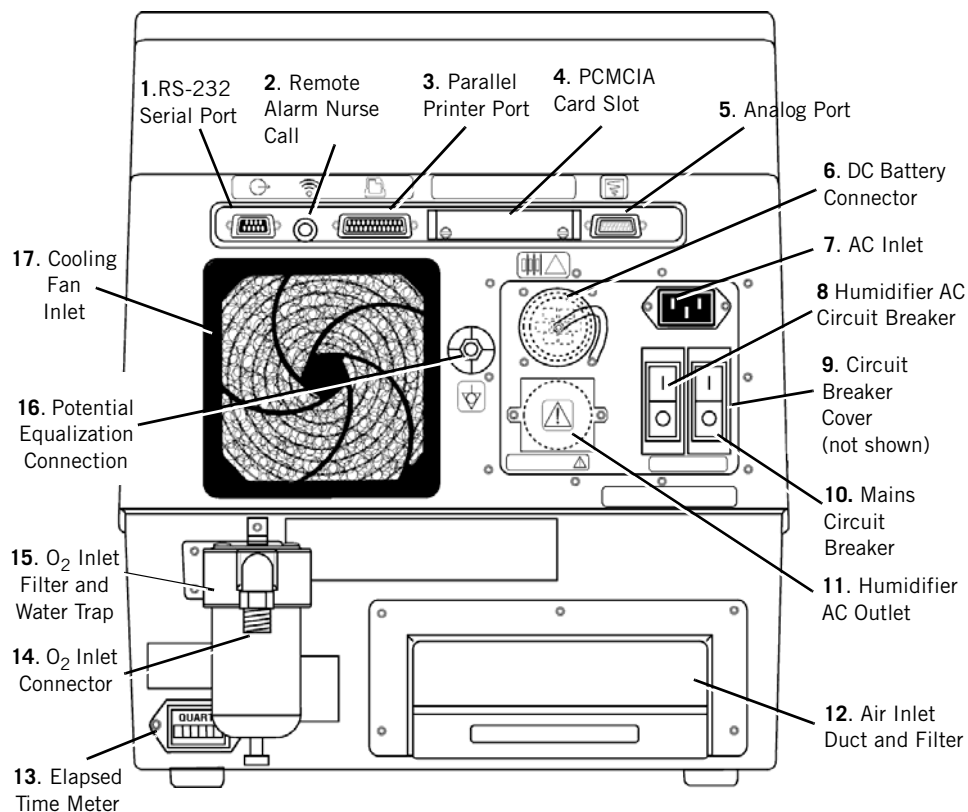

Figure 5-1: Back Panel
2. Connect the AC Power Cord (1) to the AC inlet (3) located on the rear panel. (Refer to Figure 5-1.)
3. After cord is fully inserted, tighten the retaining bracket screw (2) so that the power cord cannot be inadvertently disconnected from the ventilator.
When the switch is in OFF () position, the ventilator does not provide mechanical ventilation. If the AC plug is connected and the Mains circuit breaker (refer to Figure 5-1) is ON (), AC power is active and the green Mains circuit indicator on the front panel, is illuminated.
1. Ensure that the Mains Circuit Breaker (refer to Figure 5-1), located on the ventilator back panel, is in the ON (I) position.
2. For 120V applications, if a humidifier is attached to the ventilator, ensure that the Humidifier AC Circuit Breaker (refer to Figure 5-1), located on the ventilator back panel, is in the ON (I) position. A humidifier connection is only available on 100-120VAC ventilators.